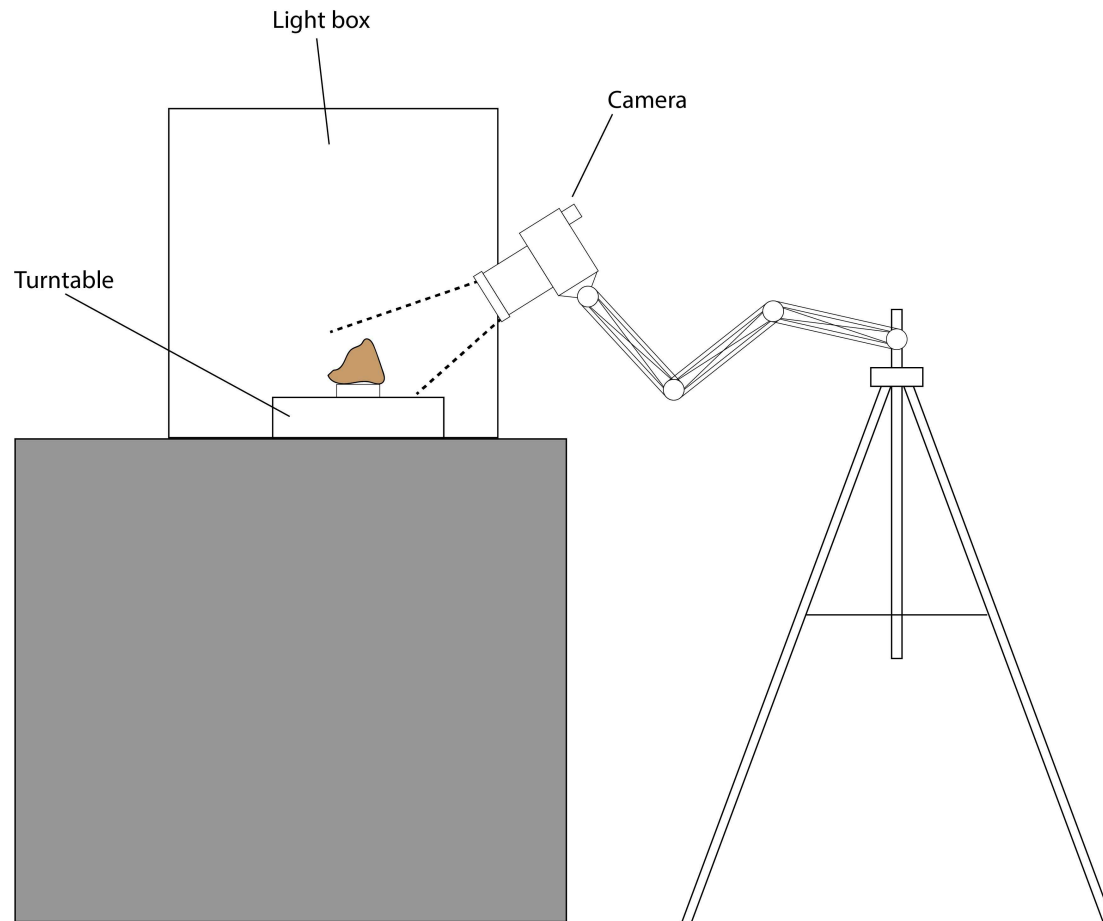

Figure 4. Camera, tripod, and sample positioning example. Figure by Lucas Evart, U.S. Geological Survey, 2024
- 2.5 Once the sample is in the light box and centered on the turntable, place the camera and tripod as shown in Figure 4.
Figure 4 is not rendered precisely to scale. Depending on the sample's size and shape, and the lens being used, exact positioning may vary. The dashed lines in Figure 3 indicate the field of view of the camera.
As shown in Figure 4, begin by securing the sample in the Clampmaster Xtreme or similar clamping apparatus. To ensure that the software can orient the images in this set, do one or both of two things: